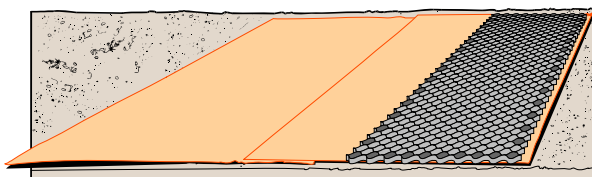

Figure 9 Infilling Perimeter Cells
- **Option 2:** Expand and manually fill selected perimeter cells prior to machine infilling. See Figure 9.